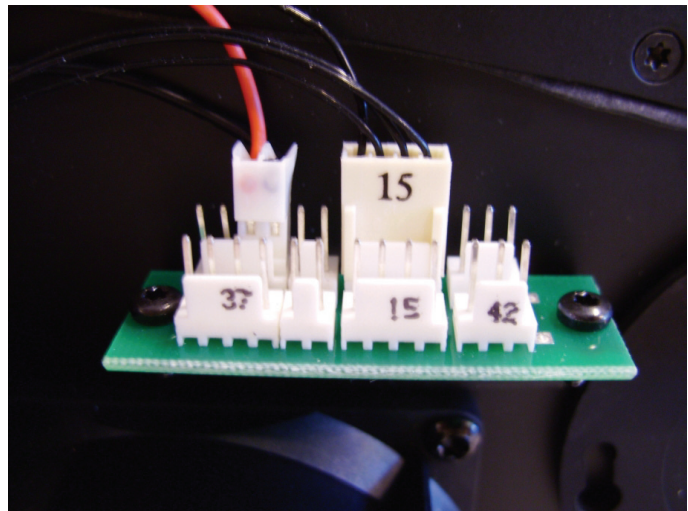

Figure 41
45. Disconnect all the zoom/focus module multi-connectors apart from plug 15 and the effects fan plug on the front two pins of connector number 37 on the right side of the head, leaving the connectors as shown in Figure 41.